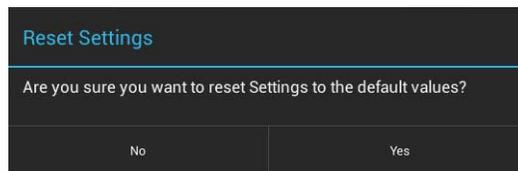

FIG. 23 Reset Settings window
1. From the *Reset and Update* menu, select *Reset Settings* to open the *Reset Settings* window (FIG. 23).